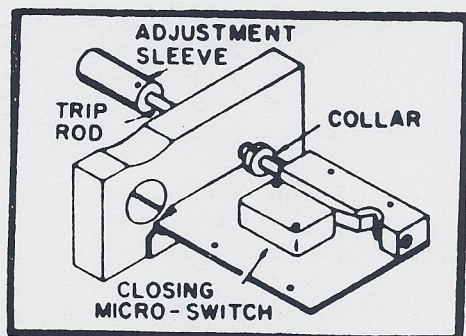

FIGURE 7
16. Trip Rod Adjustment. See Fig. 7.